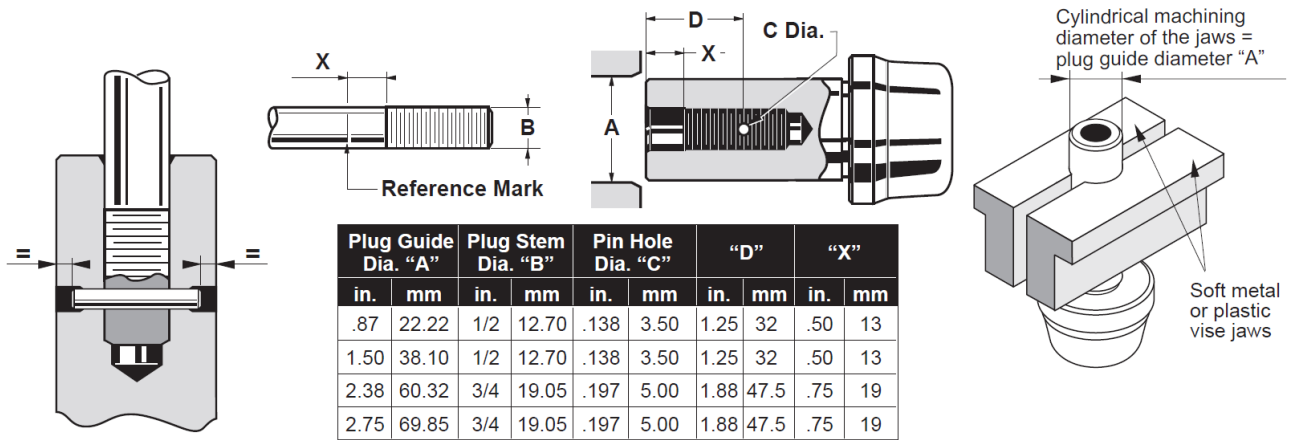

Figure 4: Plug Stem Pinning
- 4.2.1. Measure Dimension D based on the plug guide diameter and stem diameter (see Figure 4).
- 5.2. Press fit the pin into the hole using a hammer. Complete the pinning operation by taking care to ensure that the pin is recessed by the same amount at both sides (see Figure 4).